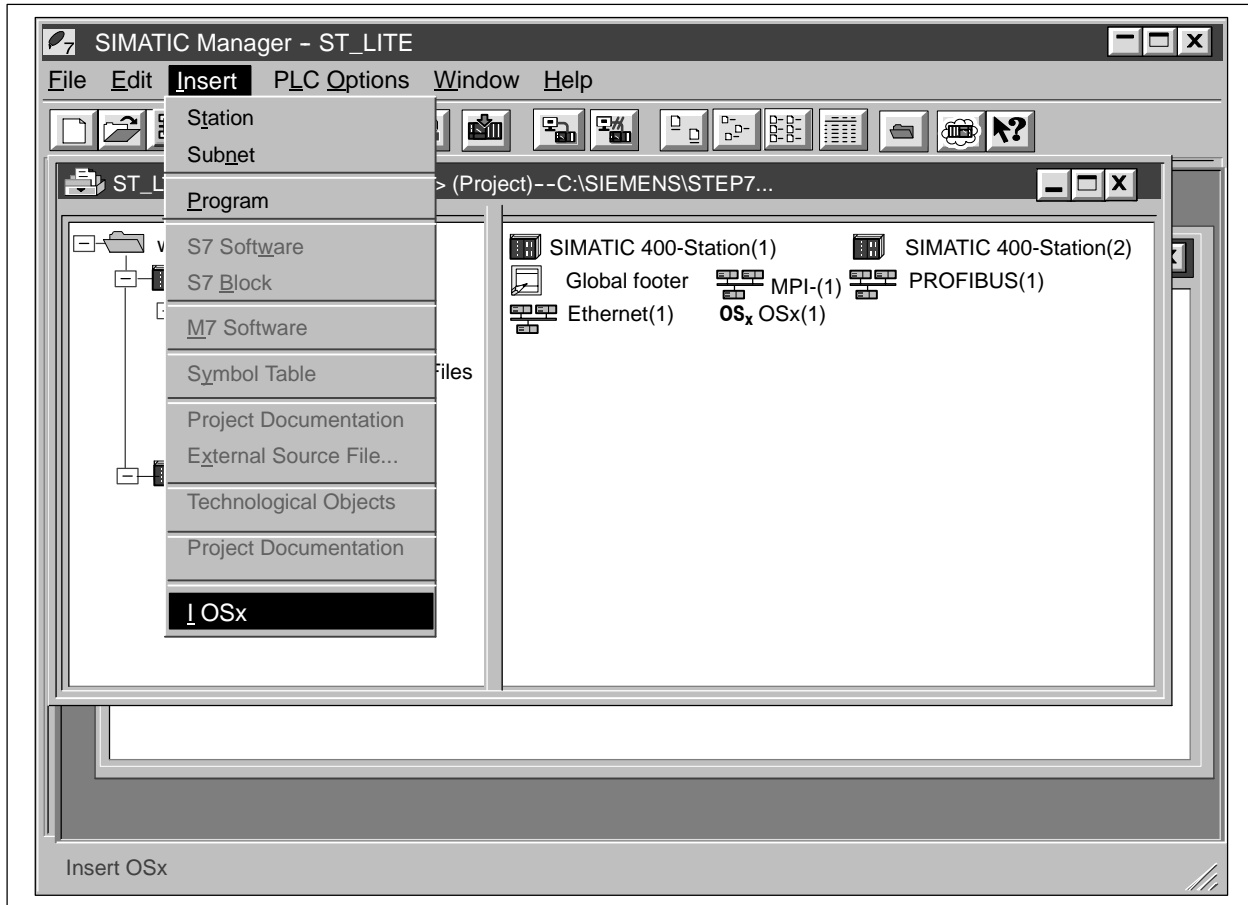

Figure 2-10 Inserting an OSx Connection
4. From the SIMATIC Manager menu bar, select **Insert->OSx**. An OSx station is added to the project. A labeled icon appears in the project level directory (Figure 2-10).